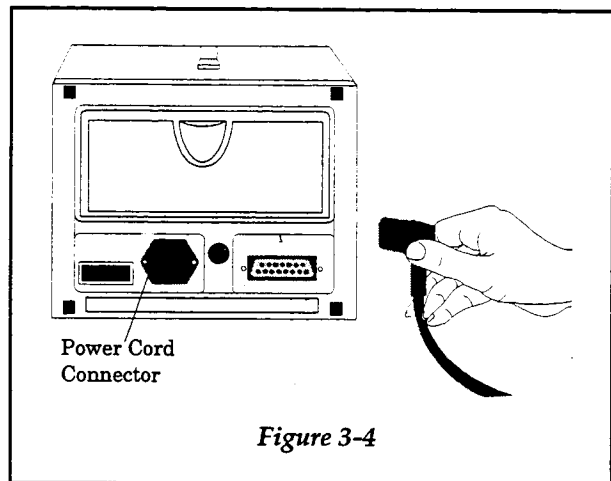

Figure 3-4
Step 3 Plug the electrical cord into the power connector on the back of the unit. Figure 3-4.